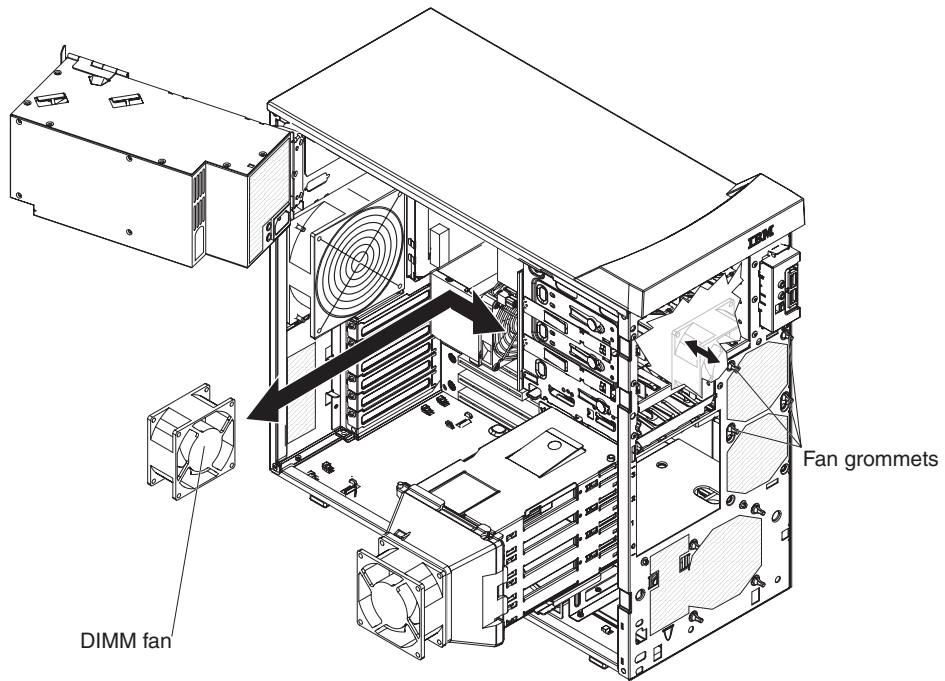

Figure 52. Installing the DIMM fan
1. Position the fan so that the grommets protrude through the holes in the chassis; then, use needle-nose pliers to pull the grommets through the holes from outside the chassis (see Figure 52).